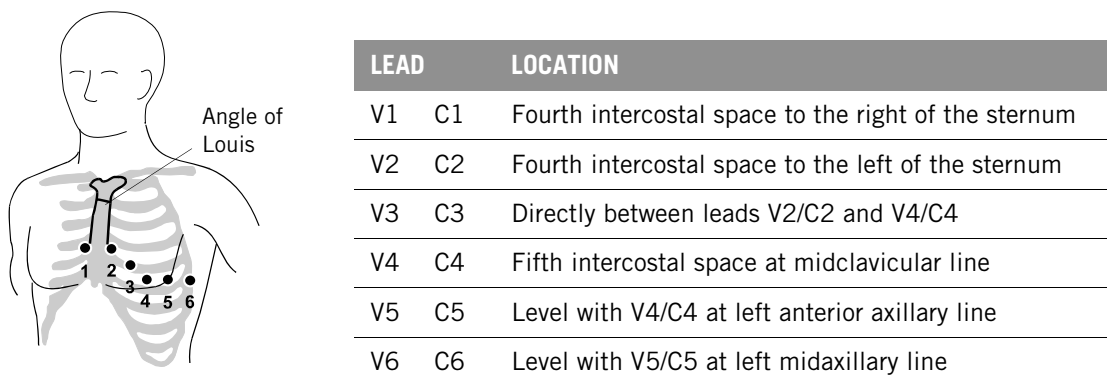

Figure 4-5 Precordial Lead Electrode Placement
2. Place the precordial lead electrodes on the chest as described in the 12-lead ECG procedure and shown in Figure 4-5 on page 4-16.
The six precordial (chest) leads are placed on specific locations as shown and summarized in Figure 4-5. Proper placement is important for accurate diagnosis and should be identified as follows: leads are V1 through V6 for AHA, or C1 through C6 for IEC. See "ECG Leads Color Codes" on page 4-10 for color codes.
5. Continue locating other positions from V1/C1 (see Figure 4-5).